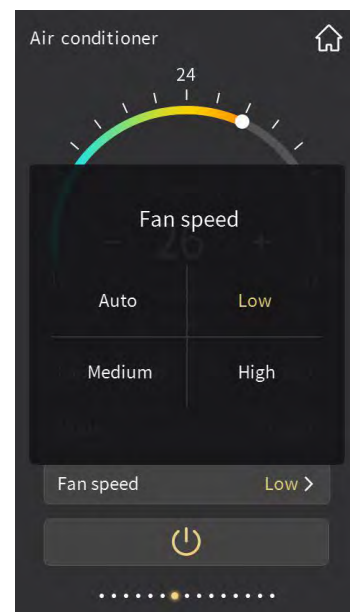

Fig.2.4.5
- ⑨ Enter the fan speed setting by touching this tile, and will pop up a sub-window shown as Fig.2.4.5;